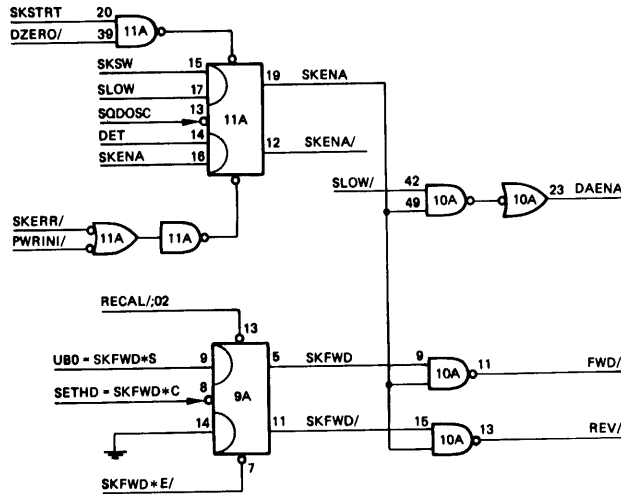

Figure 3-37. Servo Control, D-A Enable and Direction Control
- SKSTRT is ANDed with DZERO/ to produce SKENA*M/. SKENA*M/ erases the detent flip-flop and marks SKENA (Figure 3-37).